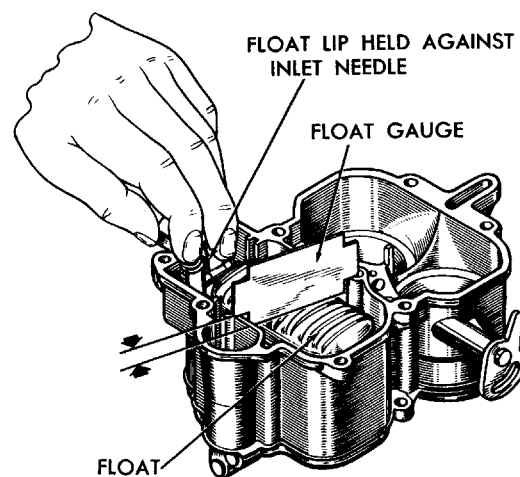

Fig. 18—Checking Float Setting
(13) Using a "T" scale or Tool 73725, check the float setting, as shown in Figure 18. The float must be $\frac{1}{8}$ inch from the top of the main body (gasket removed) with the gauge at the center of the float and the lip held firmly against the fuel inlet needle. **Do not bend float lip by forcing float, use Tool 73605.**
(14) To change the float setting, bend the float lip toward the needle to lower, and away from needle to raise the float.